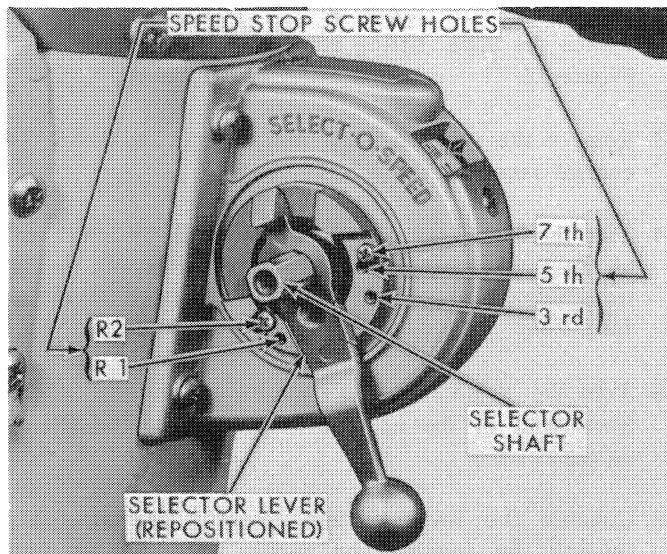

Figure 23
screw stops can be installed in the R_1 , R_2 , 3rd, 5th, or 7th gear selections as desired. Refer to Figure 23. Also, a bypass shuttle plate is available to permit the selector lever to override the neutral notch. The selector lever and notched cover may be installed on either side of the assembly for right-hand or left-hand operation.
2. Move the control lever to the left end, as shown in Figure 23, and secure with the notched cover and spring.
Some operations will require a limited range of transmission speed ratios and often they will alternate between forward and reverse speeds. Therefore, five tapped holes have been incorporated in both sides of the selector housing which accommodate two stop screws, as shown in Figure 23. The screws can be placed in one of three specific holes which will stop the selector lever at third, fifth, or seventh speed, and in one of two other holes, to stop the lever in either R₁ or R₂, as shown in Figure 23. A bypass plate, available as an accessory, is installed over the neutral notch to prevent the lever from stopping at the Neutral position. When the use of these stops is desired, they should be installed on the control lever side of the selector assembly. When they are not desired, they should be carried on the tractor by installing them